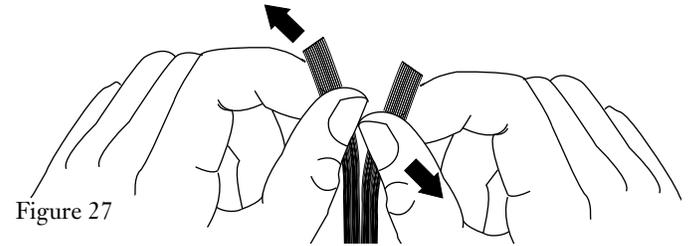

Figure 27
- Pull the two sections apart in opposite directions (Figure 27).